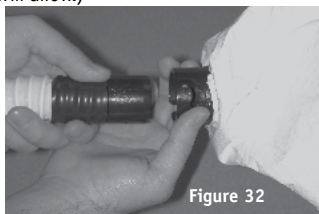

Figure 32
2. Insert the bayonet connector of the PA20LFBT breathing tube in the hood connector and turn clockwise until it locks in place (see Figure 32).